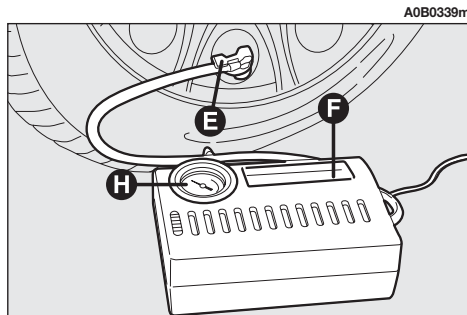
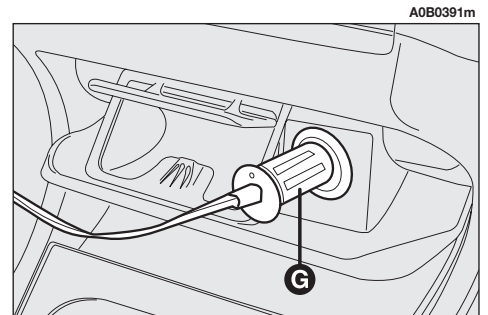

fig. 18
fig. 19
**6)** Use the appropriate lever (**E-fig. 18**) to insert and clamp the air compressor pipe (**F**) to the tyre valve.
**7)** Start the engine, insert the plug (**G-fig. 19**) in the lighter (or socket 12V) and inflate the tyre according to the right pressure value (see "Cold inflation pressures" in the "Technical specification" chapter). You are advised to check the tyre pressure value on the pressure gauge (**H-fig. 18**) with the compressor off, in order to have a more accurate reading.